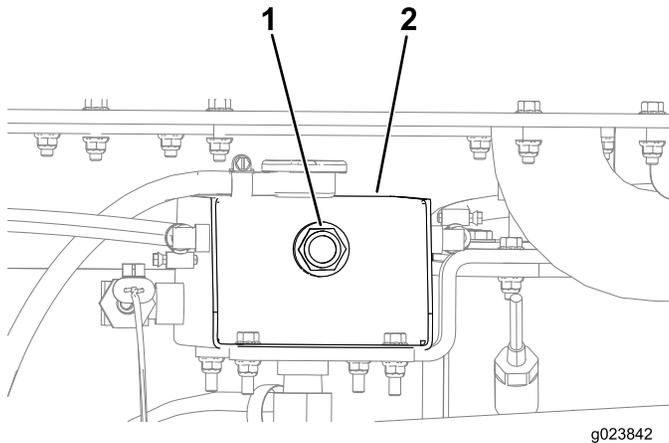

Figure 107
4. Check the coolant level by looking at the sight gauge at the end of the radiator tank (Figure 107).